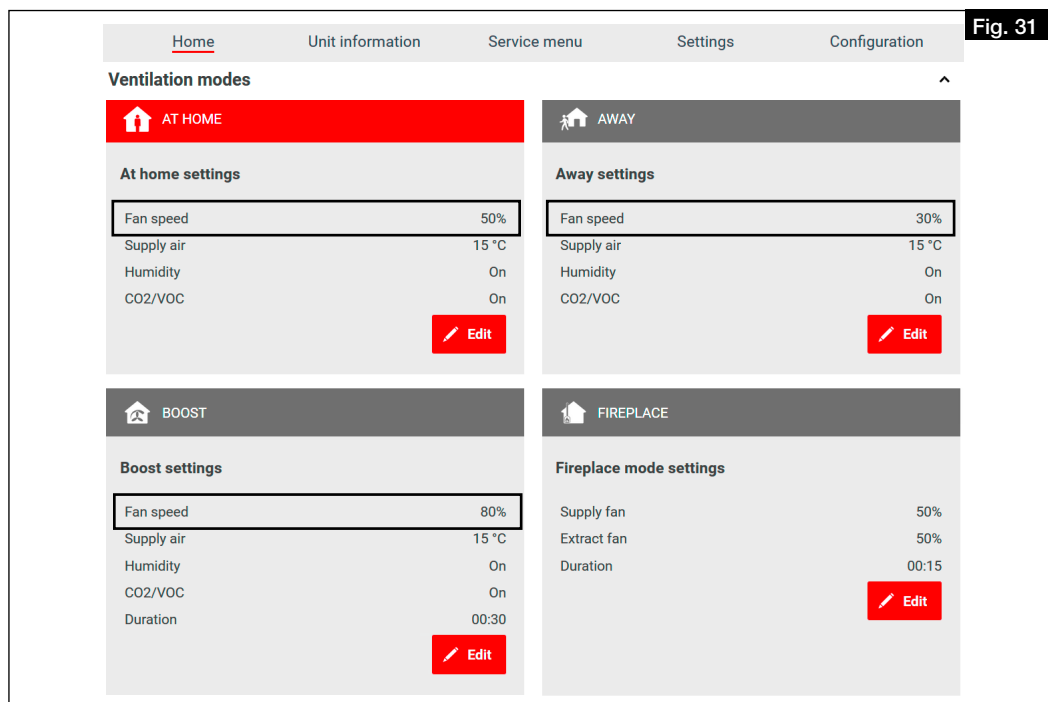
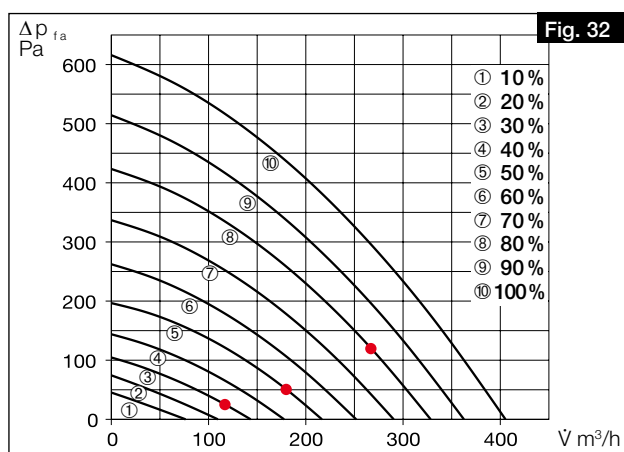

Fig. 31
Fig. 32
① Ensure approx. 20 cm straight settling section up to the measuring connectors!
2. Enter the following values for the fan powers in the respective ventilation profile via the easyControls software or the control element KWL-BE Touch: **Away:** 30 % / **At home:** 50 % / **Boost:** 80 % (cf. Fig. 31).
4. Enter the determined differential pressures from the supply and intake air measurement in the unit characteristic curve for supply air (see Fig. 22, Fig. 24, Fig. 26 and Fig. 28) according to the fan outputs saved in the ventilation profile (cf. Fig. 31, Fig. 32).
5. Enter the determined differential pressures from the extract and exhaust air measurement in the unit characteristic curve for extract air (see Fig. 23, Fig. 25, Fig. 27 and Fig. 29) according to the fan outputs saved in the ventilation profile (cf. Fig. 31, Fig. 32).